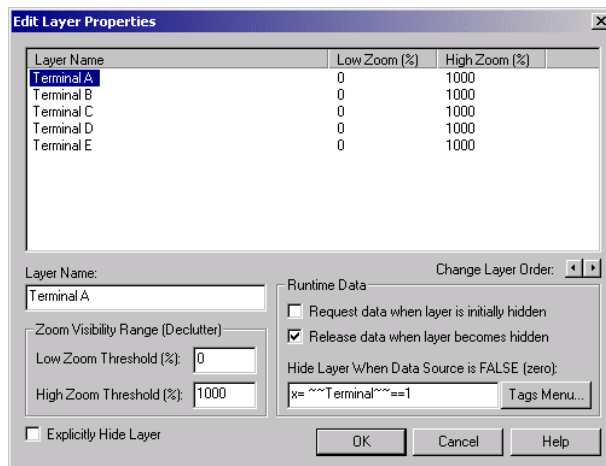

Figure 5.22
- 5 Follow the same procedure to create four more layers: **Terminal B** through **Terminal E**. When complete, the **Edit Layer Properties** window should look like **Figure 5.22**. Click **Ok**.